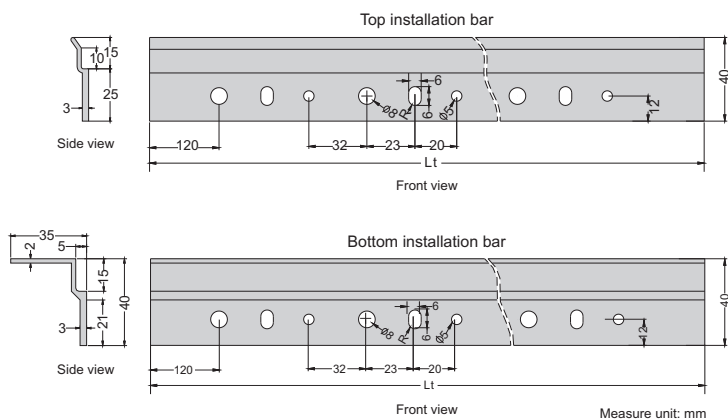

Figure 9
- Each screen is equipped with a top and bottom installation bars with many sets of holes, three of which belonging to one set. Installation bar specifications on Figure 9.